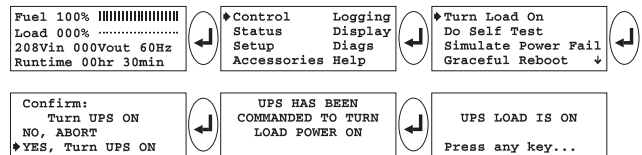

Fig 5-21 Power The Load Sequence
- 8. Use the following steps to deliver output voltage to the load equipment. See figure 5-21 for the screen sequence.